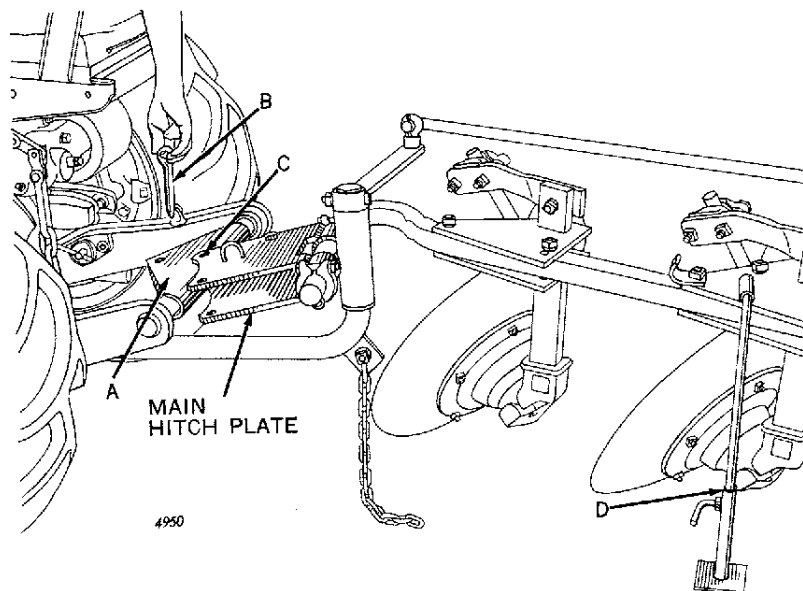
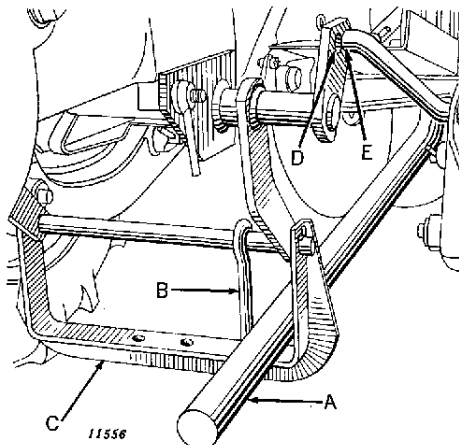
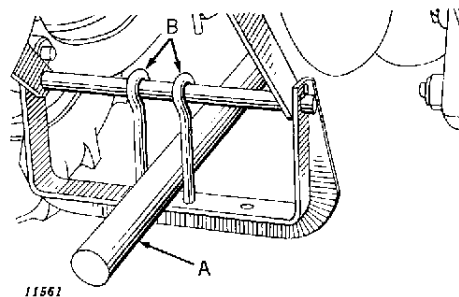
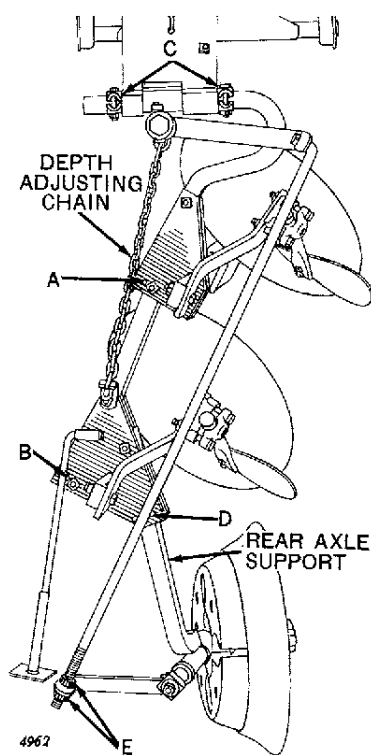

Figure 3—Attaching or Detaching Plow
Figure 4—Control Bar and Power Depth Control—Model "M"
Figure 5—Control Bar and Power Depth Control—Model "MT"
Figure 6—Width of Cut Adjustments
1. Position the plow so the main hitch plate, Figure 3, is approximately parallel to the ground and with the forward end of the depth control bar "A," Figure 4, blocked up between 10 and 14 inches above the ground.
NOTE: Do not attach hanger eyebolt "B," Figure 4, at this time.
2. Place inner hitch plate on tractor drawbar "A," Figure 3. Insert hitch pin "B" through hole in plate and drawbar.
3. Back the tractor to the plow slowly, guiding the control bar "A," Figure 4, into depth control hanger "C."
4. Line up main hitch plate with plate on drawbar as shown in Figure 3, using Touch-o-matic control lever. Do not pull hitch pin "B" until hole at "C" is within one or two inches away. Then pull pin, line up holes in plates and drawbar, and insert the pin.
5. Pull depth control bar "A," Figure 4, to left side of hanger and attach hanger eyebolt as shown at "B" for the Model "M" Tractor. On the Model "MT" Tractor hold control bar "A" in the center with two eyebolts, "B," as shown in Figure 5.
6. Raise the plow with the Touch-o-matic lever and attach depth-adjusting chain as shown in Figure 6. Swing the support stand "D," Figure 3, up and onto the frame and the plow is ready for work.
2. Place support stand in position as shown at "D," Figure 3.
Each disk can be adjusted to cut a furrow slice from 7 inches to 9 inches in width. Two holes at "A" and at "B," Figure 6, provide this adjustment. The disk standards are shown in the narrow or hard-ground setting. In conjunction with this adjustment it will be necessary in extreme conditions to move the rear furrow wheel toward or away from the furrow wall. See three holes at "D," Figure 6. Remove bolt, move rear axle support to left, and place the bolt in left hole for **hard ground**. Use center hole for medium or average conditions and right hole for soft ground.
Correct any front disk overcutting, by loosening the clamps at "C," Figure 6, and sliding the plow toward the furrow wall. Move the plow away from the furrow wall if the front disk undercuts.
NOTE: When any of the above adjustments are made, it will probably be necessary to realign the rear wheel. See "E," Figure 6.